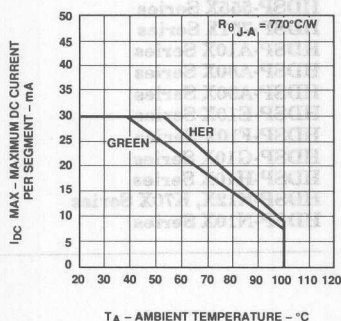

Figure 12. Maximum Allowable DC Current vs. Ambient Temperature.
5. Derate above 53°C at 0.45 mA/°C (see Figure 12).
7. Derate above 39°C at 0.37 mA/°C (see Figure 12).